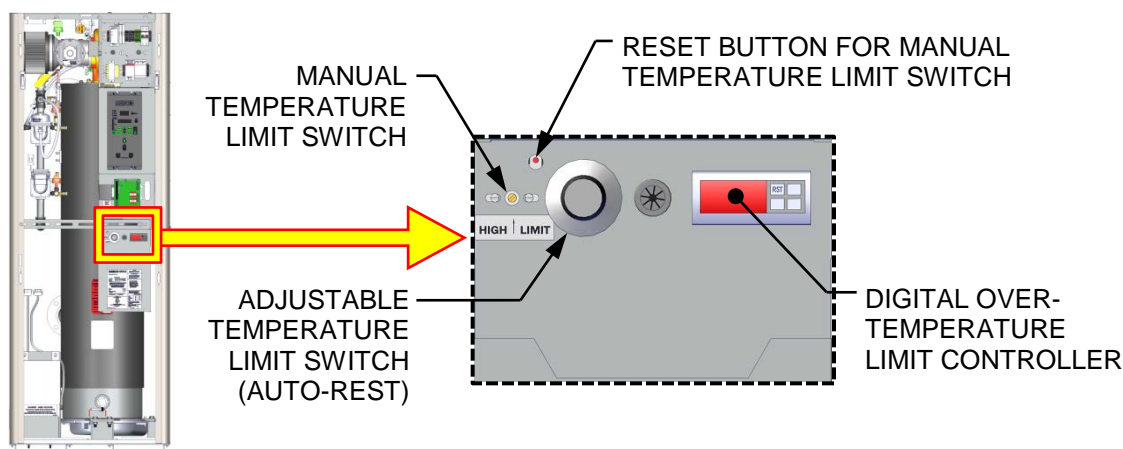

Figure 4-5a: BMK 750 & 1000 Over-Temperature Limit Switch Location
The unit contains three (3) types of over-temperature limit controls. These controls consist of a **Manual Reset** button, a rotary adjustable **Temperature Limit** switch and a digital **Over-Temperature Alarm** button. These controls are mounted on a plate as shown in Figure 4-5a and 4-5b. They can be accessed by opening the front panel door of the unit.
The **Manual Reset** button is not adjustable and is permanently fixed at 210°F (98.9°C). This button will shut down and lock out the boiler if the water temperature exceeds 210°F (98.9°C). Following an over-temperature condition, it must be manually reset by pressing the **Manual Reset** button shown in Figure 4-5a and 4-5b before the boiler can be restarted.
The digital **Over-Temperature Alarm** switch shown in Figure 4-5a, 4-5b and 4-6 is preset at the factory to 210°F (98.9°C) and should not be changed. If an over-temperature condition is detected, this switch automatically shuts down the boiler and sounds an audible alarm. If desired, the **Over-Temperature Alarm** can be checked or adjusted using the procedure in section 4.7.1.